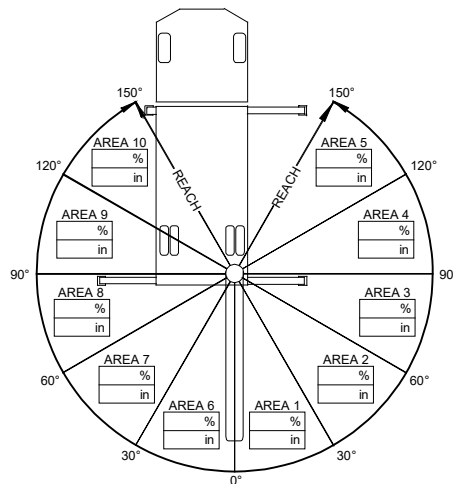

Figure 23 Stability Chart
5. At the balance point, retract the extension boom until stability is regained. Measure the horizontal reach in this position (center of rotation to hook). This is the stable horizontal reach in this zone. Note this reach in *Figure 23*.
6. Continue rotating the boom after stability has been regained. Again, watch the vehicle for instability. If a point of instability re-occurs, retract the extension boom until stability is regained. Again, determine the stable horizontal reach, and note this distance in *Figure 23*.
7. Repeat this cycle through a full 180°. Complete all of the reach boxes for Areas 1 through 5 in *Figure 23*.
9. If the crane was stable in all areas, fill in 100% in all of the percentage boxes in *Figure 23*.
11. Using the data generated in *Figure 23*, fill out the stability capacity chart. In the de-rated zone, each individual capacity on the capacity chart must be multiplied by the de-rated percent of full capacity.